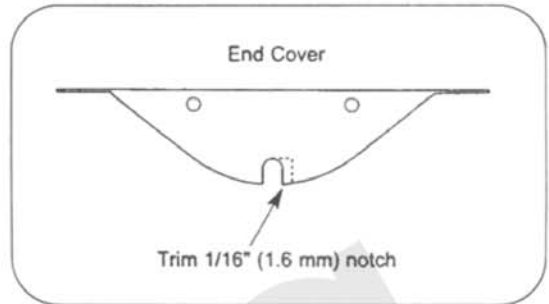

Figure 1. End Cover
1. Widen the opening in the end covers and heating barrier plates by trimming 1/16" (1.6 mm) from one edge on each piece. This can be done with a tin snips or similar metal cutting tool. (See Figures 1 & 2.)